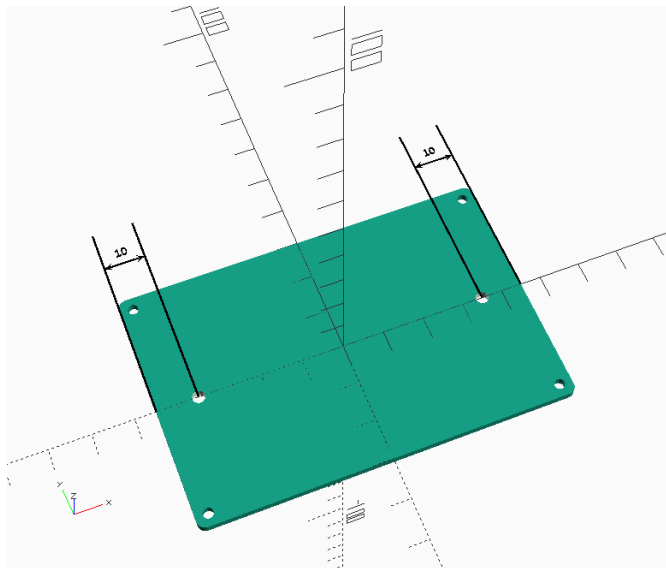

Figure 5.3: Allowed holes positions.
**Each team is allowed to screw an extension on the top of the part. This extension must not increase the width and depth of the part and can add a maximum of 15 mm of height. Maximum diameter of the two holes is 3 mm and their positions should respect the details of Figure 5.3.**